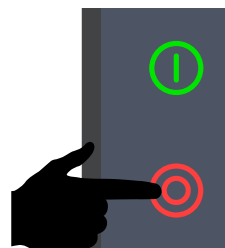

Figure 119. Stop Button
7. **On generator #1**, press the **Stop button** (Figure 119) on the touch display. The engine will shut down after a 30-second cool-down period.